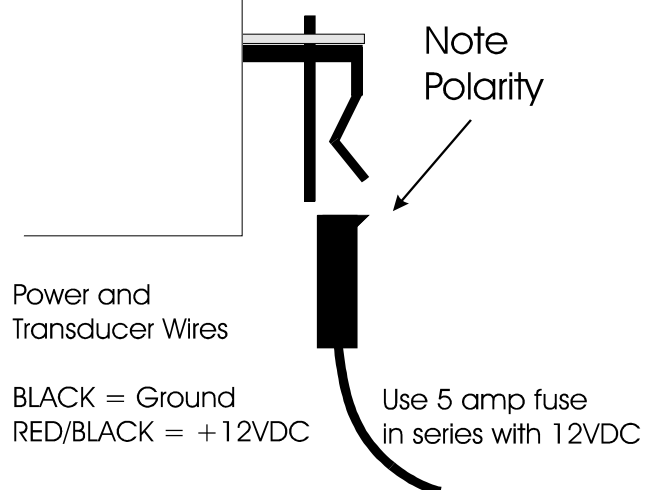

Figure 2
- Bring the transducer/power cable out of the mounting hole and plug the connector onto the instrument circuit board as shown in figure 2 (page 7). **It is difficult but possible to plug the connector backwards if forced - observe polarity.** Use a 5 amp fuse on the power line as shown in Fig 2.
- Carefully check all your wiring against those shown in figure 2. If everything is wired correctly you can mount the D60 in the instrument hole. Be sure the bulkhead gasket is in place and use only finger tension to tighten the bracket hold-down nuts. *Do not overtighten the bracket or you may damage the case - do not use tools to tighten the nuts.*